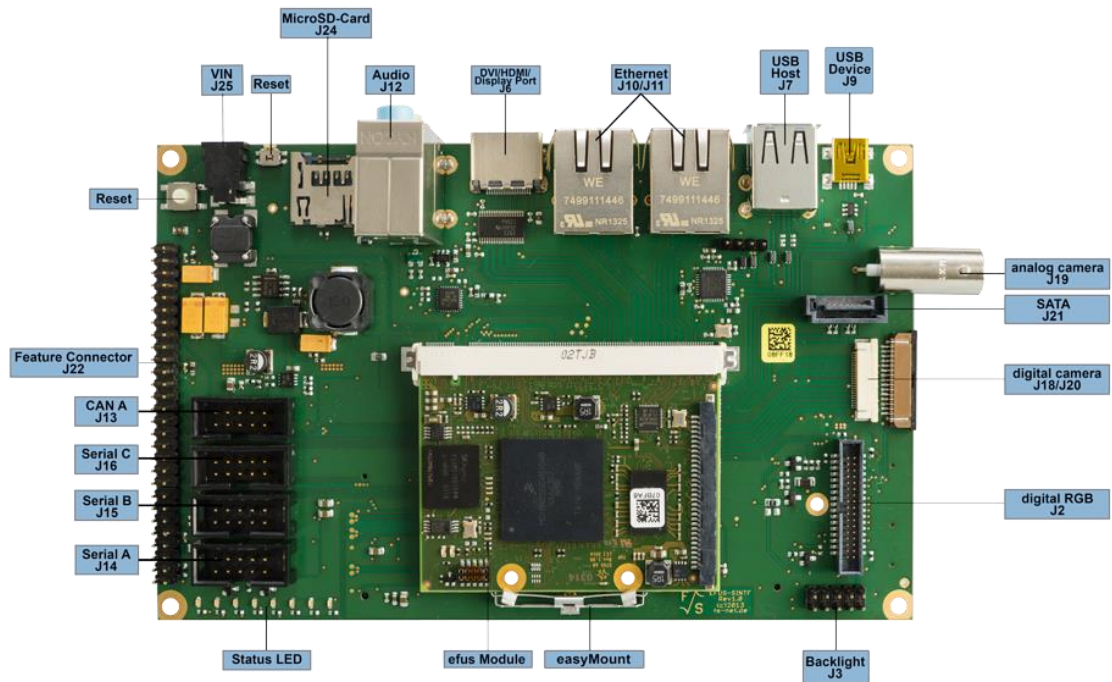

Figure 1: efusA9 on carrier board (top side)
- Plug a cable between power connector of efusA9 (see Figure 1:efusA9 on carrier board (top side)) and your power supply. Usually you need to connect ground and +5V (2A).